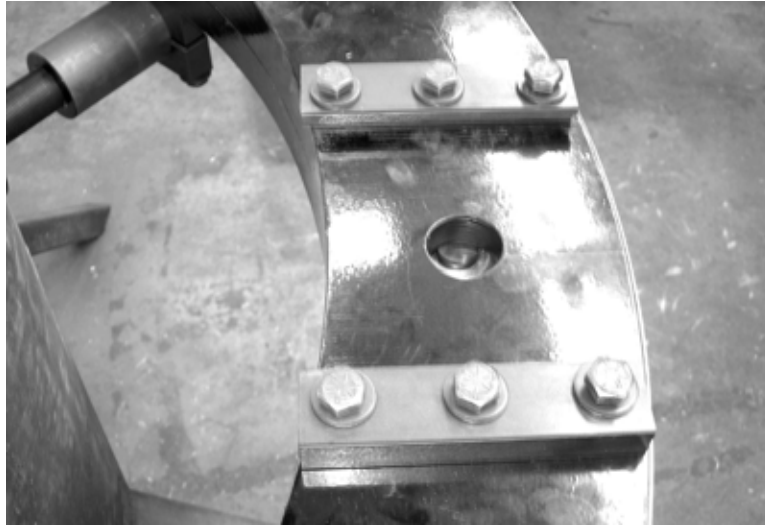

Figure 5-16. Install the slide mounting blocks on the rotating ring. Leave the mounting bolts loose.
1. Position the slide mounting blocks for the parting tool slide on the split frame rotating ring and insert the mounting bolts, as shown in Figure 5-16.